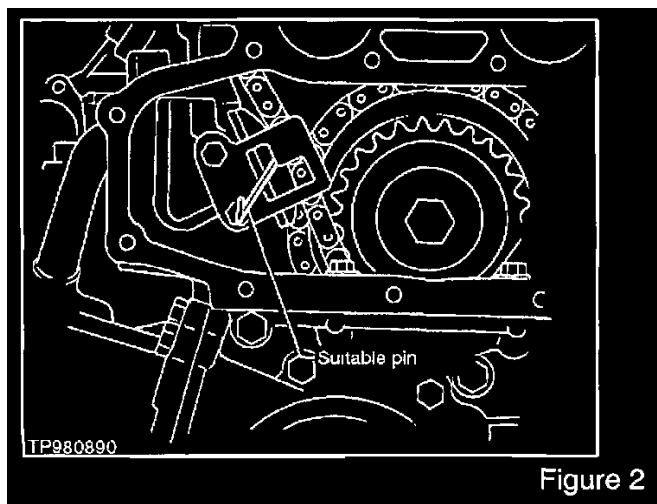

Figure 2
- a. Before installing the chain tensioner, insert a suitable pin into the pin hole of the chain tensioner (see Figure 2) to hold the tensioner in.